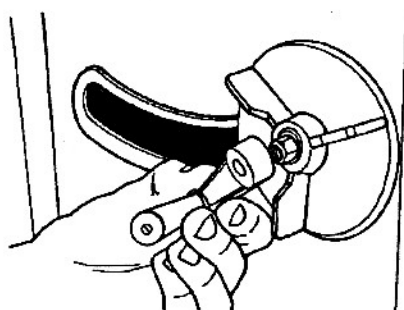

Fig. 26
38. Install the blade height adjustment handle (39), as in Fig. 26, using a cap screw (106) and flat washer (114).